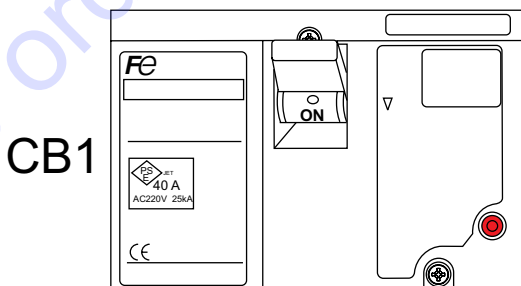

Figure 65. Main Circuit Breaker ON (GFCI Test)
2. Place the main circuit breaker, CB1 (Figure 65) in the **ON** position.